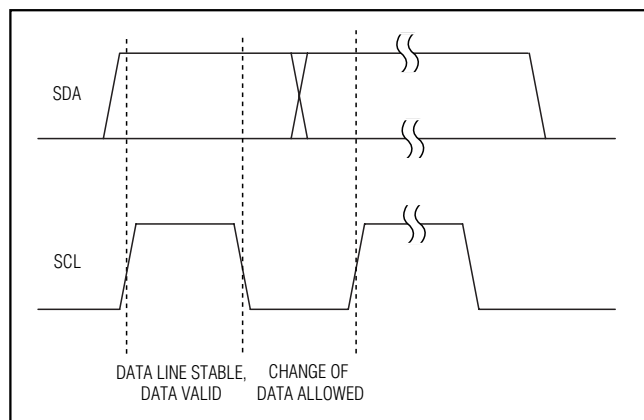
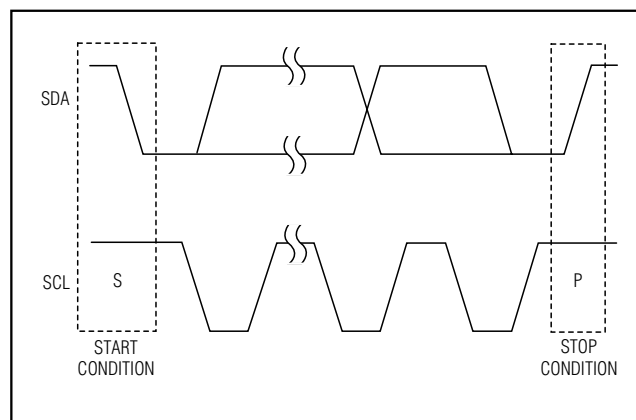

Figure 11. Bit Transfer
Figure 12. Start and Stop Conditions
Each clock pulse transfers one data bit. The data on SDA must remain stable while SCL is high (Figure 11); otherwise, the MAX6876 registers a START or STOP condition (Figure 12) from the master. SDA and SCL idle high when the bus is not busy.
Both SCL and SDA idle high when the bus is not busy. A master device signals the beginning of a transmission with a START (S) condition (Figure 8) by transitioning SDA from high to low while SCL is high. The master device issues a STOP (P) condition (Figure 8) by transitioning SDA from low to high while SCL is high. A STOP condition frees the bus for another transmission. The bus remains active if a REPEATED START condition is generated, such as in the block read protocol (see Figure 11).
A REPEATED START (SR) condition may indicate a change of data direction on the bus. Such a change occurs when a command word is required to initiate a read operation (see Figure 12). SR may also be used when the bus master is writing to several I²C devices and does not want to relinquish control of the bus. The MAX6876 serial interface supports continuous write operations with or without an SR condition separating them. Continuous read operations require SR conditions because of the change in direction of data flow.